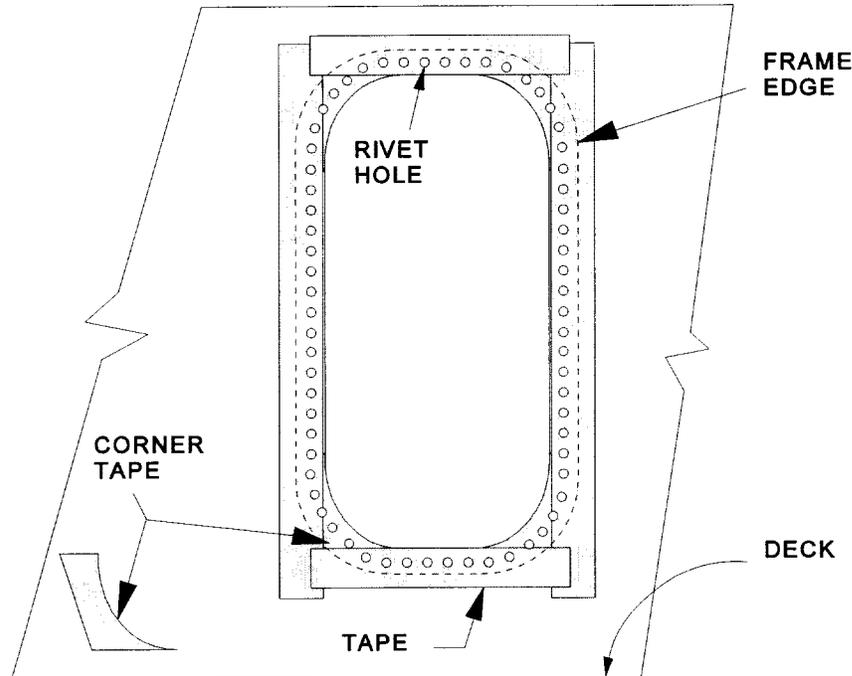

Figure 3-12. Dielectric Tape Installation
- b. Drill holes for huck rivets through the frame and bulkhead. For a standard 8- or 10-dog door, drill approximately 60 holes. Drill the holes close enough to the outer edge of the door frame to avoid having huck rivets interfere with the operation of the quick-acting linkage assembly. See figure 3-12.
The bulkhead must be smooth. (Refer to paragraph 3-1.12.1.) Install strips of dielectric tape along the entire edge of the clear opening. Cut curved pieces for the corners. See figure 3-12.